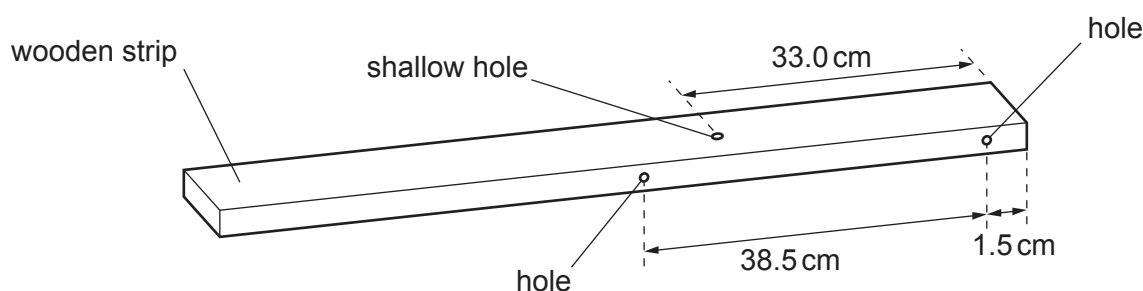

Fig. 2.1 (not to scale)
- 1 The wooden strip should have two holes of diameter 5 mm drilled through it between the narrow faces at the positions shown in Fig. 2.1.
A shallow hole of diameter 5 mm and approximate depth 2 mm should be drilled in one of the wide faces in the position shown in Fig. 2.1.